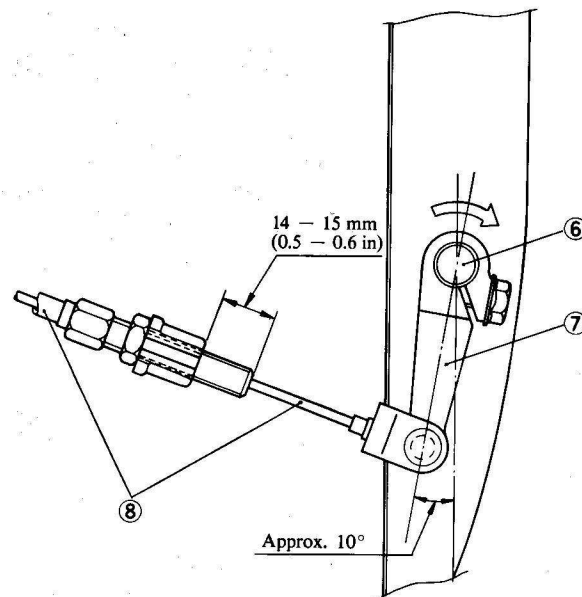

Fig. 11.
- Turn the clutch release pinion ⑥ fully in the direction by the arrow.
- Install the clutch release arm ⑦ and the clutch cable ⑧ as shown in Fig. 11.